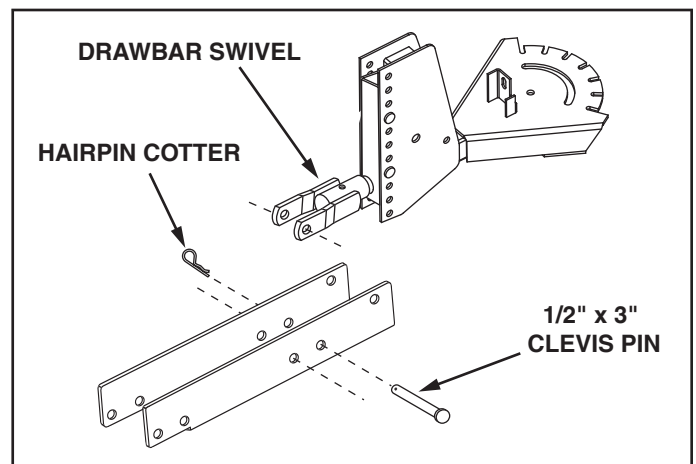

FIGURE 1
1. **(Figure 1 next column)** Slide the Ball Hitch Bracket onto the drawbar swivel. Fasten it to the swivel using a 1/2" x 3" clevis pin and a haircutter pin. Use the set of holes that provide the fullest engagement possible.